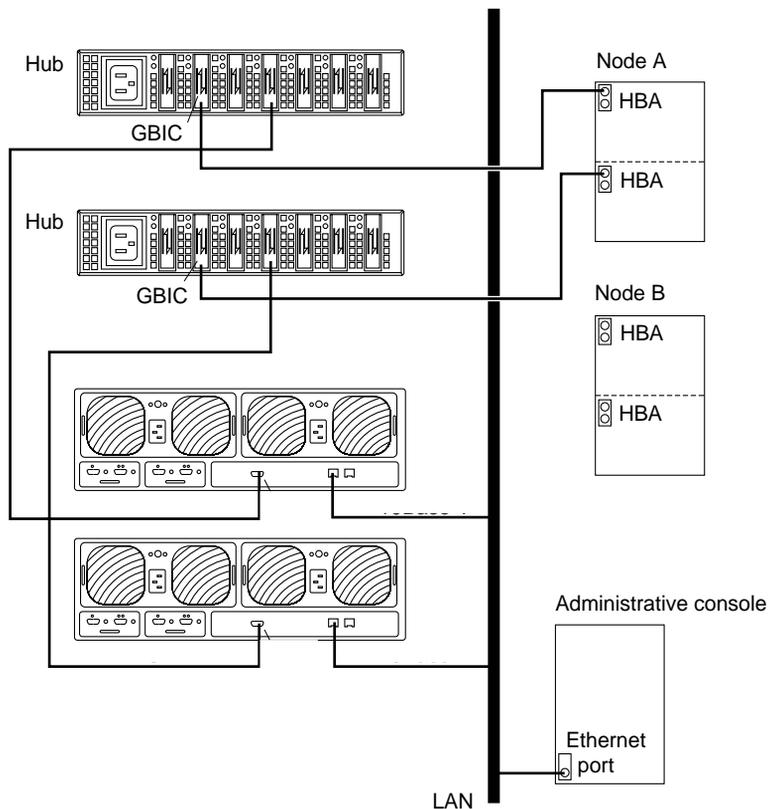

FIGURE 8-3 Adding a StorEdge T3/T3+ Array in a Single-Controller Configuration
20. If necessary, install a GBIC in the Sun StorEdge FC-100 hub, as shown in FIGURE 8-3.
21. If necessary, connect a fiber-optic cable between the Sun StorEdge FC-100 hub and Node A as shown in FIGURE 8-3.